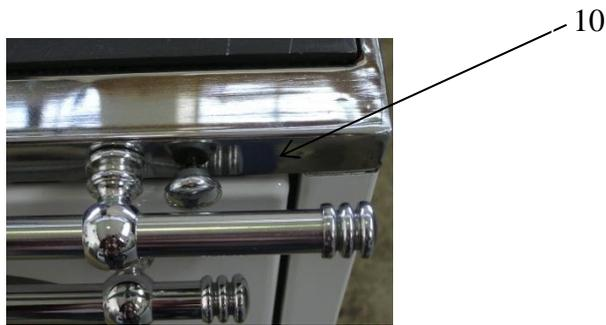

Fig. 3
Moving of the heating flap is performed by activating the knob (figure 3, position 10) which is positioned above the oven door. It is used for shortening of the path of flue gases during stoking. Open the heating flap only in a stage of kindling of the stove.
- \* Open the primary air regulator at the highest level of air release ( figure 3, position 9 )